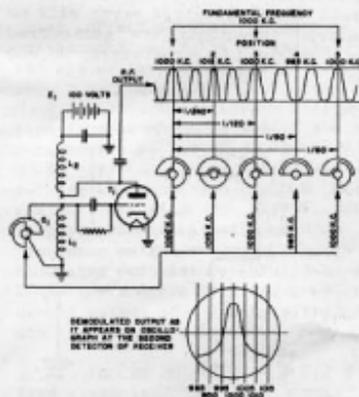

Figure 2.5 - Frequency Modulation
**A.** An illustration of the generation of frequency modulation is shown in Figure 2.5. The main characteristic of a frequency modulated signal is that the frequency is constantly changing while the output voltage remains constant. Starting at the fundamental frequency, the frequency gradually increases to its maximum, decreases through the fundamental to its minimum and then returns to the fundamental frequency, completing the cycle. The maximum and minimum frequencies are determined by the bandwidth of the f-m oscillator. In the illustrated case, the bandwidth is 15 kc either side of the fundamental 1000 kc. In the Universal Crystal Controlled Signal Generators the bandwidth may be either 0-30 kc, 0-150 kc or 0-450 kc. The rate at which the cycle is completed may also be variable. In these models the rate is either 60 or 400 cycles.
tor of the circuit given in Figure 2.5. The control of the Band width of frequency modulation is the potentiometer R25. In the case of the narrow band f-m oscillator (1 mc), the sweep may be varied from 0-30 kc, utilizing 60 cycle modulating frequency. When using the wide band f-m oscillator (50 mc) the sweep may be varied from 0-450 kc utilizing 60 cycle modulation or 0-150 kc utilizing 400 cycle modulation. The oscillator can also be externally modulated. The remaining section of the 6SN7, V3 is used as a mixer stage to heterodyne either the 1 mc or 50 mc frequency modulated signal with the signal from the main variable oscillator, V1, 6C4, thereby resulting in a variable frequency modulated output covering a range between 100 kc to 160 mc.